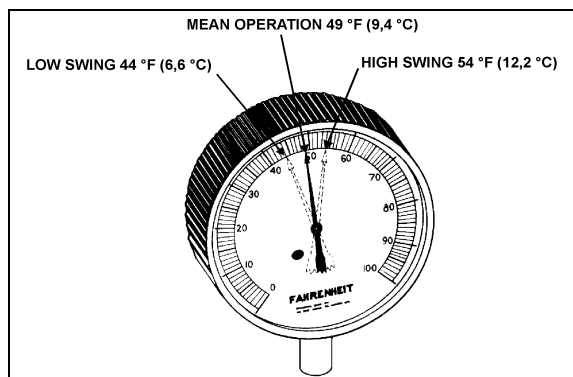

FIGURE 34: HIGH & LOW SWING TEMPERATURE AT REMOTE BULB²²⁰⁴⁷
6. Check approximately 5 readings of pressure at 2-minute intervals and convert to temperature using the temperatures & pressures table. Likewise check the temperature reading at the remote bulb at the same 2-minute intervals and record the low and high swing readings of the needle (refer to Fig. 34).